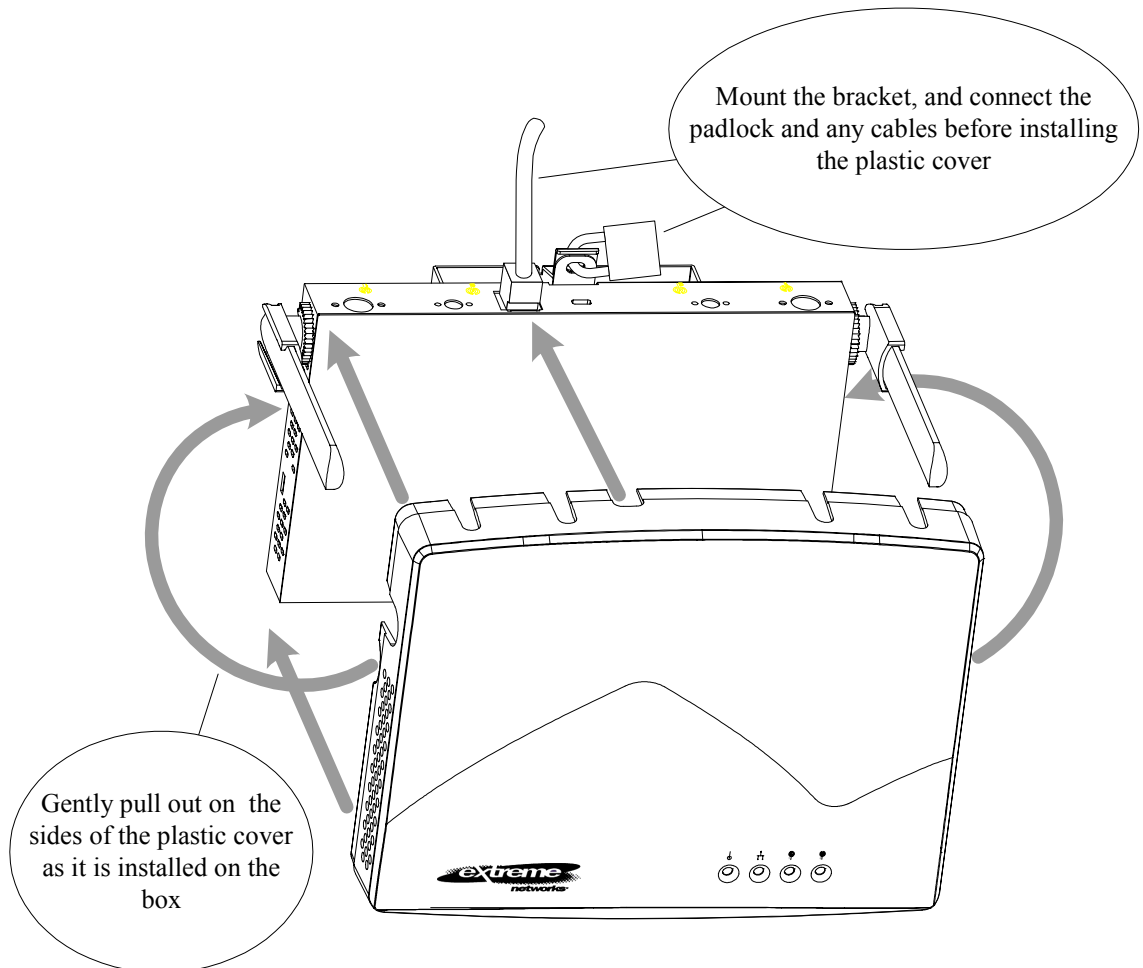

Figure 10: Plastic Cover Installation
- 10 Attach the plastic cover - Attach the optional plastic cover to the box, see Figure 10: Plastic Cover Installation on page 27. After the cover has been secured push on each antenna to make sure its shroud is locked in position. This ensures that the teeth on the shroud are engaged with the teeth on the cover.